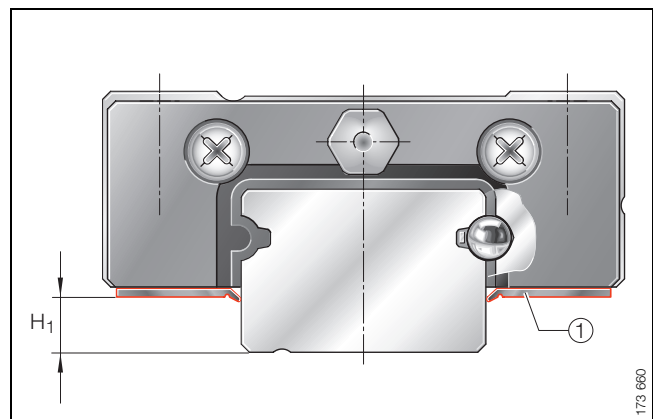

Figure 10 · Dimension  $H_1$
For applications in contaminated environments, the carriages can be fitted with sealing strips ①. In this case, the reduced dimension  $H_1$  must be taken into consideration (Figure 10 and Table 7).